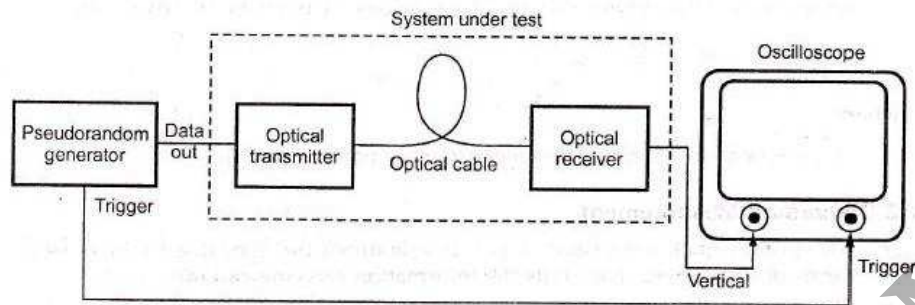

Fig. 8.7.3 Setup for Eye-diagram Measurement
- x Eye pattern method is a measuring techniques for assessing the data handling ability of digital transmission system. The eye-pattern measurements are made in time domain and allow the effects of waveform distortion to observe on oscilloscope. Fig. 8.7.3 shows test setup for making eye diagram measurement.